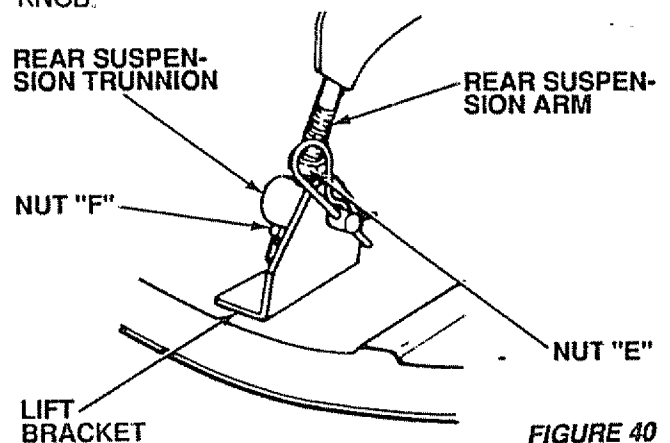

FIGURE 40
- To raise rear of mower, loosen nut "E" on both rear suspension arms. Screw both nuts "F" up EQUAL NUMBER OF TURNS (Fig. 40).
- To lower rear of mower, loosen nut "F" on both rear suspension arms an EQUAL NUMBER OF TURNS (Fig. 40).